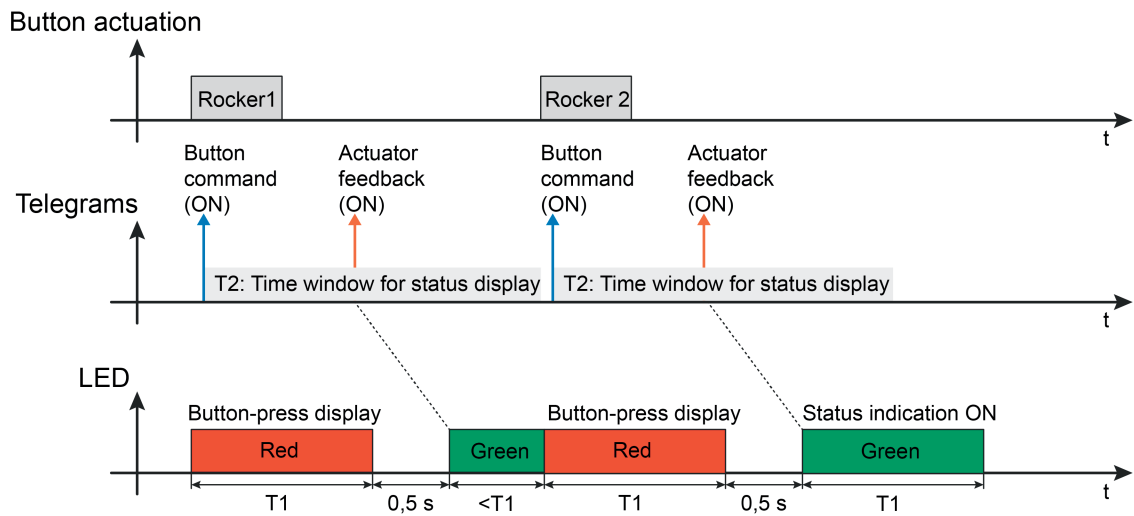

Figure 10: Example of a two-level actuation and status display
- i** In the "Switching" function, the operating concept can be configured as "Rocker function" or alternatively as "Push-button function". With a button function, each operating area can possess one status object (left button, right button). This means that different actuator feedback can be signalled. However, it should be ensured that both status objects activate the same status LED. The display functions of both buttons of an operating area do not override each other. A new button-press always interrupts an executed display function immediately (figure 10). Also, with the rocker function, only one status object is available for two operating area lying next to each other.
button will interrupt the executed display function immediately and at any time (figure 10). Cancellation can also occur if no status has been signalled for the started display function.